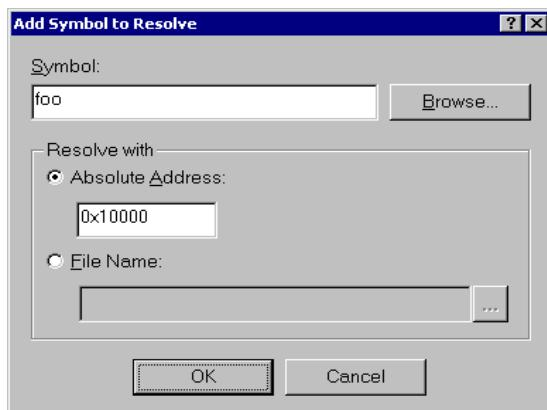

Figure 4-49. Add Symbol to Resolve Dialog Box
Choosing **Add Symbol** from the menu invokes the **Add Symbol to Resolve** dialog box (Figure 4-49), which allows you to pick a symbol by either typing the name or browsing for a symbol. Using **Resolve with**, you can also decide whether to resolve the symbol from a known absolute address or file name (.DXE or .SM) file.
1. Click **Browse** to display the **Symbols to resolve** list (Figure 4-49).